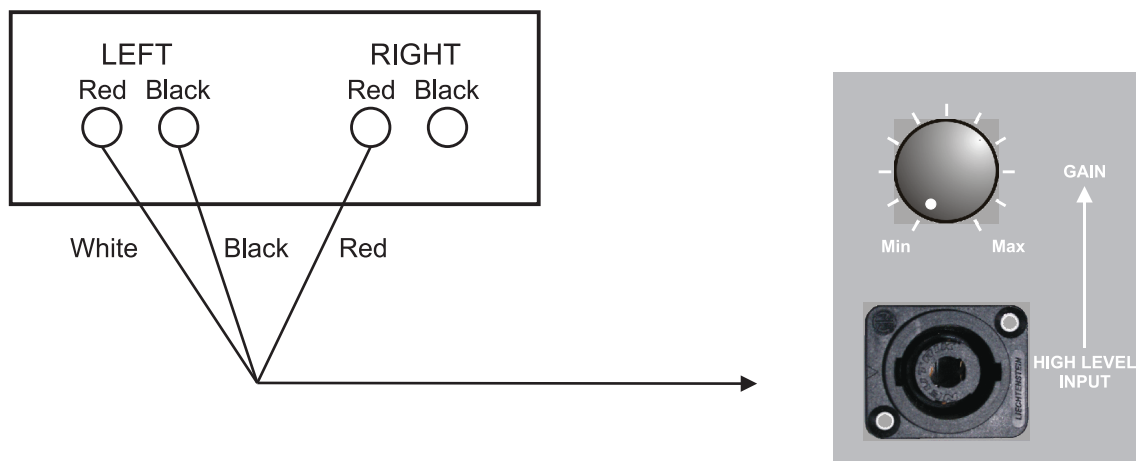
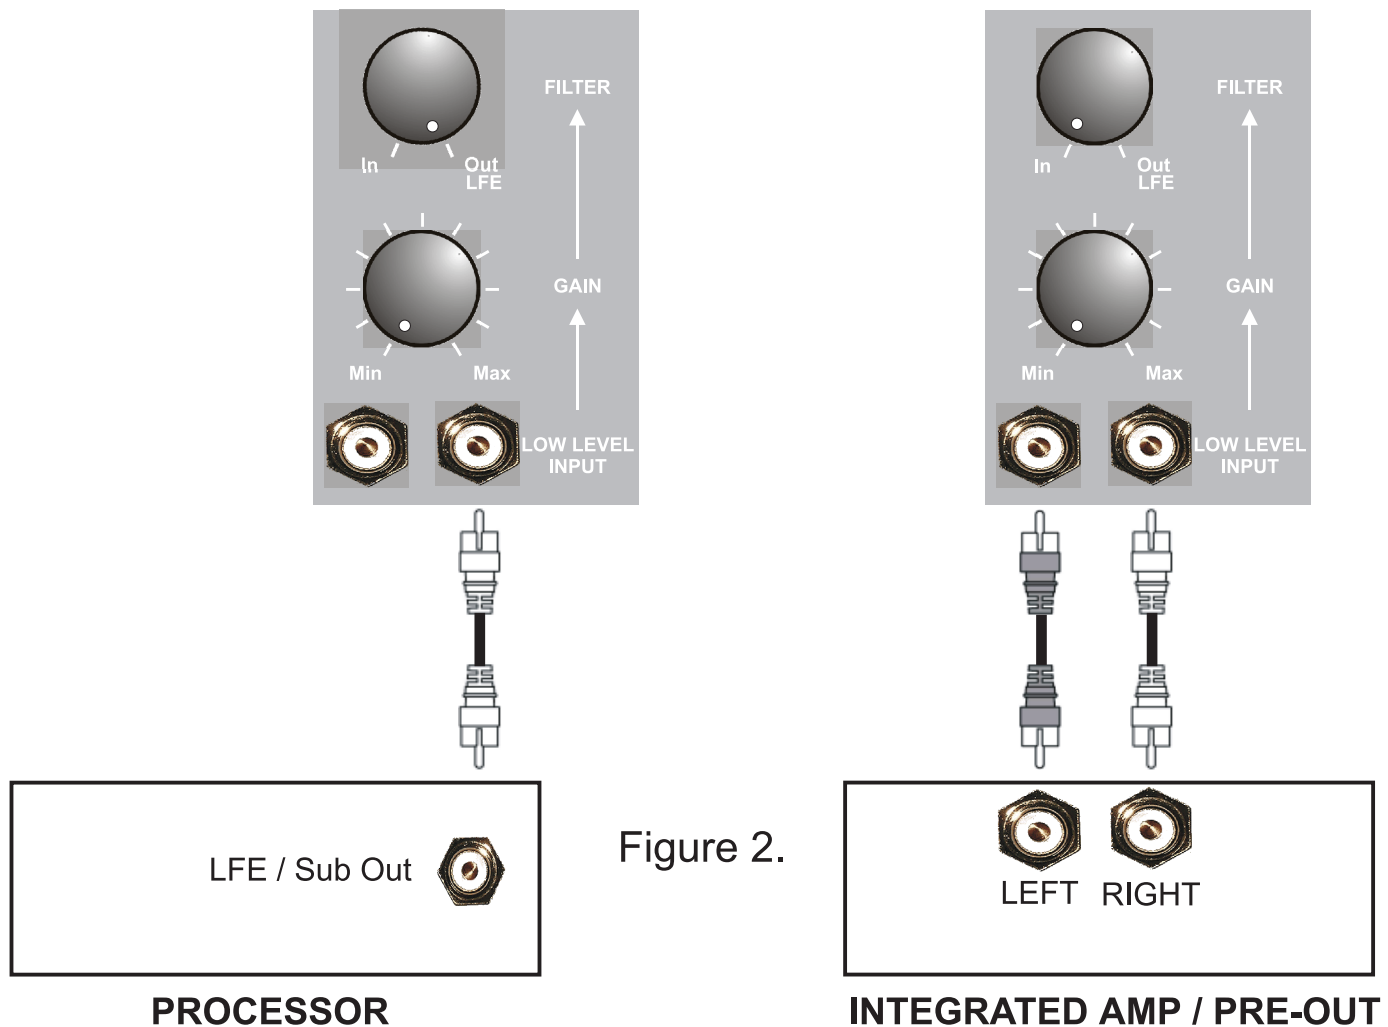

Figure 1.
Figure 2.
Figure 1. Shows a diagram on how to connect the high level input. Using the optional Neutrik lead, connect the P12-300 to the output of your amplifier via your existing speaker plug or to a spare set of speaker terminals if available. In effect you are Bi-Wiring your P12-300 to your power amp. Please note that the Neutrik cable has only three leads and is arranged this way to preserve the star earthing of your amplifier (assuming it has a star earth arrangement).
Figure 2. Shows a diagram on how to connect the low level input. Using the supplied RCA to RCA interconnect, plug one end into the P12-300 low level input and the other end into the dedicated sub output on your amplifier or processor. If a sub out is not available then you can use a spare set of pre-amp outputs.
- Connect your P12-300 as shown in Figure 1 or Figure 2. Then attach your subwoofer to the power supply using the power cable supplied, at this point have the power switch in the off position.